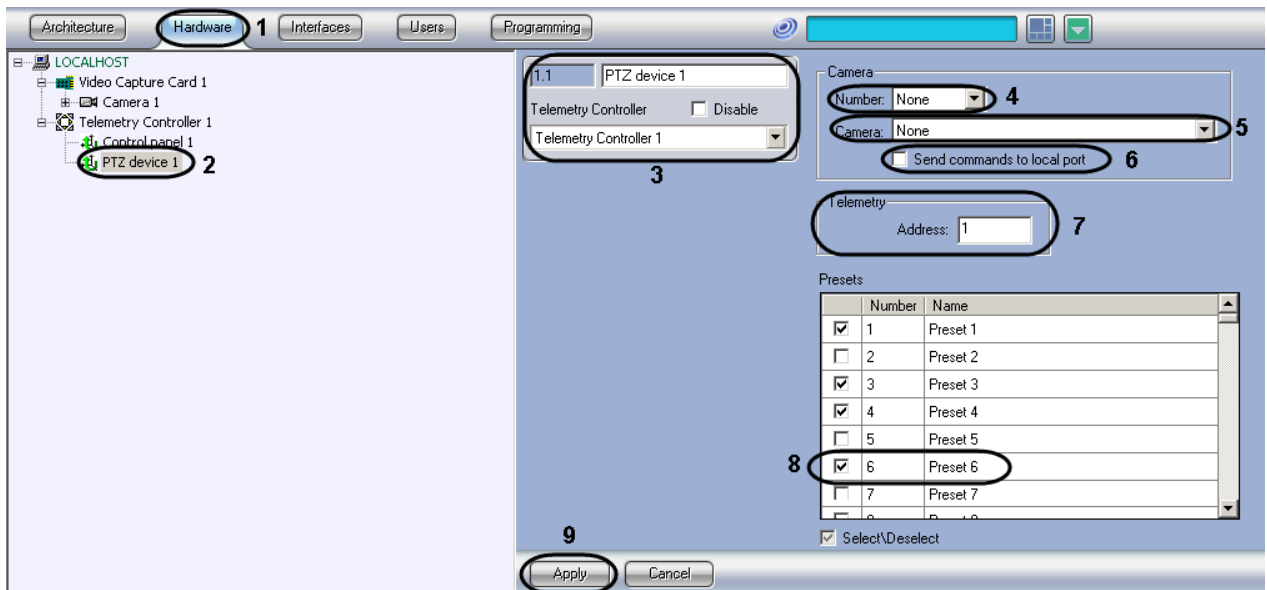

Figure 3.4-5 The setting panel of the PTZ device
1. Go to the **Hardware** tab in the setting panel of INTELLECT™ (Figure 3.4-5, 1).
2. Create the **PTZ device** object under the **Telemetry controller** object or select the relevant object in the object tree on the **Hardware** tab in the **System settings** dialog box (Figure 3.4-5, 2).
3. Enter the ID, the name of the **PTZ device** object and select the **Telemetry controller** object to which the PTZ device is connected (Figure 3.4-5, 3).
4. Select the ID of the camera equipped with a PTZ device (Figure 3.4-5, 4).
5. Select the name of the camera equipped with a PTZ device (Figure 3.4-5, 5).
6. If it is necessary to increase priority of a COM port specified in the settings of the **Telemetry controller** object, then set the **Send commands to local port** checkbox (Figure 3.4-5, 6). This parameter is used when, for ex., commands are sent not to COM port but to video capture card.
7. Enter the hardware address for the PTZ device in the **Address** field. The PTZ hardware address corresponds to the address set on the PTZ device with the help of bridges (jumpers) or configured while programming the PTZ device in the the supplied software (Figure 3.4-5, 7)
8. In the **Presets** table set checkboxes for presets names of which should be displayed on Telemetry control panel (see Telemetry panel configuration section). If it is necessary change the preset name (Figure 3.4-5, 8).
9. To save the changes click **Apply** (Figure 3.4-5, 9).